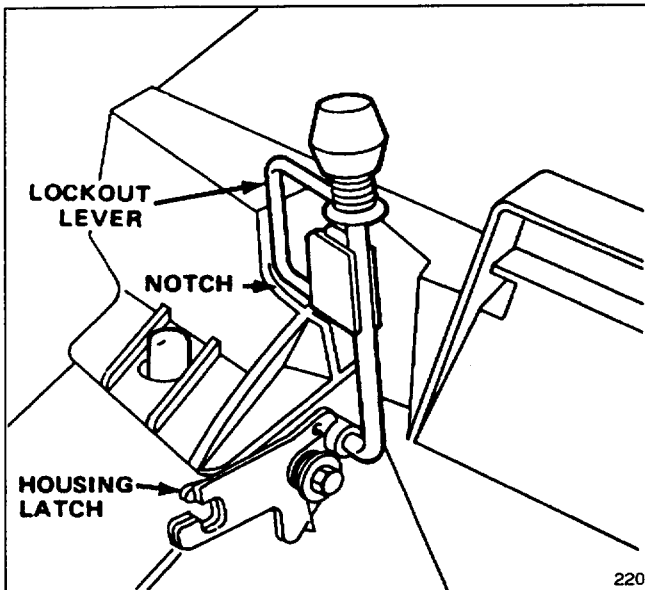

Figure 13
4. Squeeze lockout lever until it clears the housing latch, then move handle rearward until it locks in notch at rear of bag latch (Fig. 13). The chute door in mower housing is now open and mower is ready to bag grass.